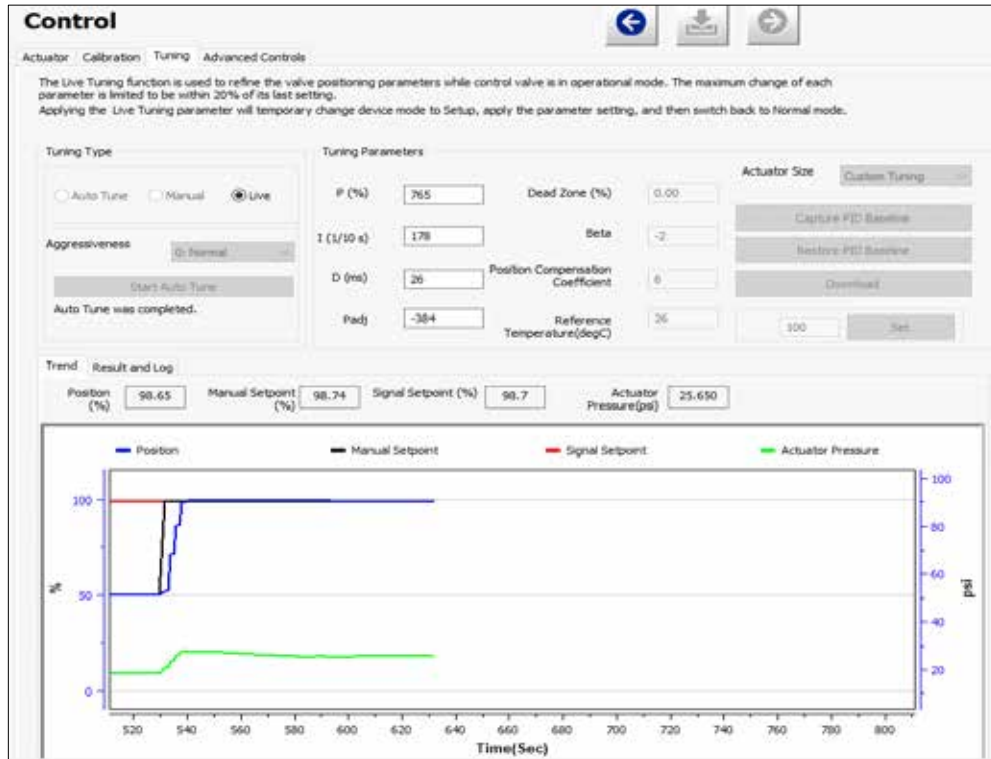

Figure 60 Live Tuning Selected
1. Click the **Live** radio button and Figure 60 appears.